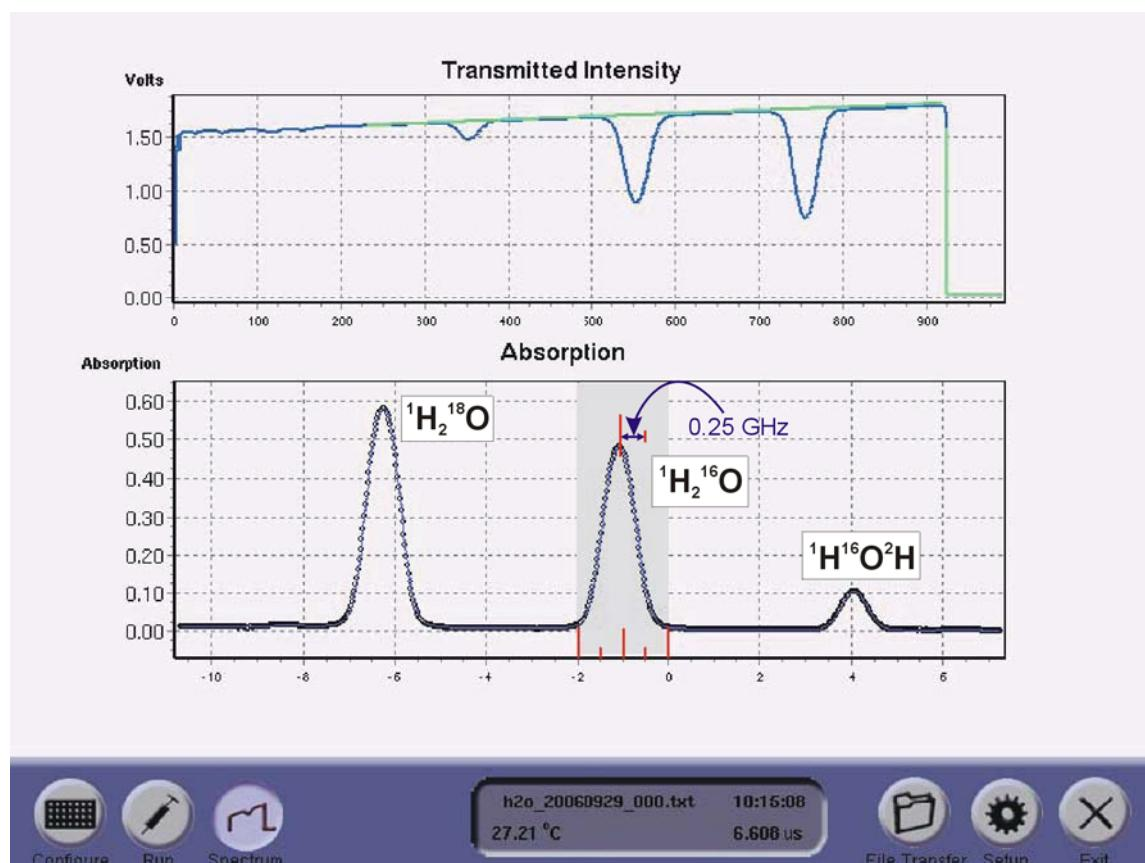

Figure 4. Spectrum Check
3. Check the spectrum on the laser (see example in Figure 4) by selecting spectrum. This spectrum is from the last analysis that is stored in the system's memory (note there will be no spectrum the first time you turn on the machine). Examine the absorption peak and make sure it is within the shaded area on the plot. If the peak is out of alignment (to the right) by at least  $\frac{1}{2}$  division (0.25 GHz) and the curve extends outside the right side of the shaded area, follow the laser offset adjustment procedure in the LGR manual. The adjustment should only be required every three to five days, but always check it before starting a run.